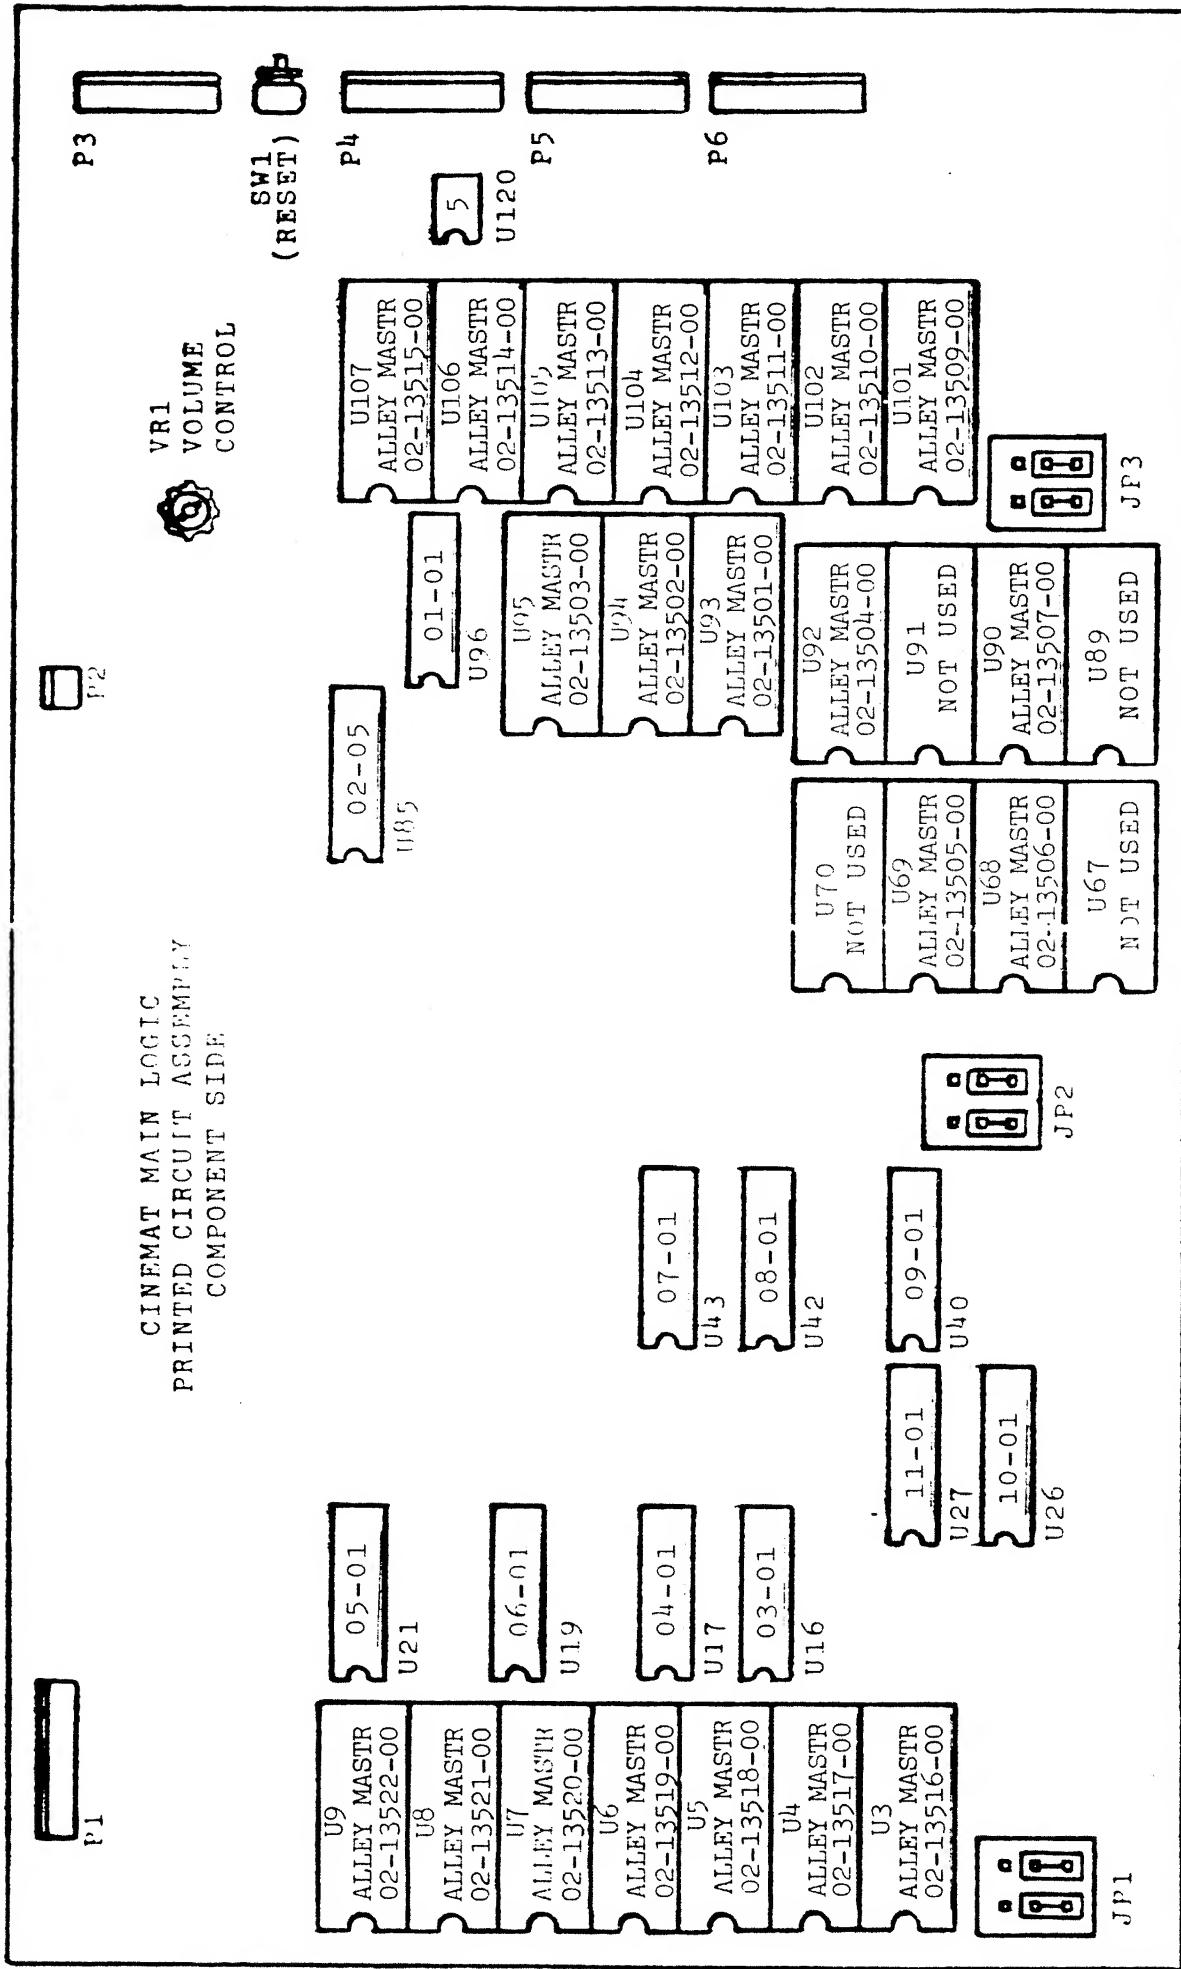

FIGURE 2
- 2) Install the 21 ALLEY MASTER eproms in the Cinemat main logic board noting the chip location ("U" number) printed on each chip and referring to Figure 2. Noting the location of pin 1 of both the eprom and socket, plug each eprom into the socket indicated. Be sure all eproms pins are aligned and the eproms are pressed firmly in place.